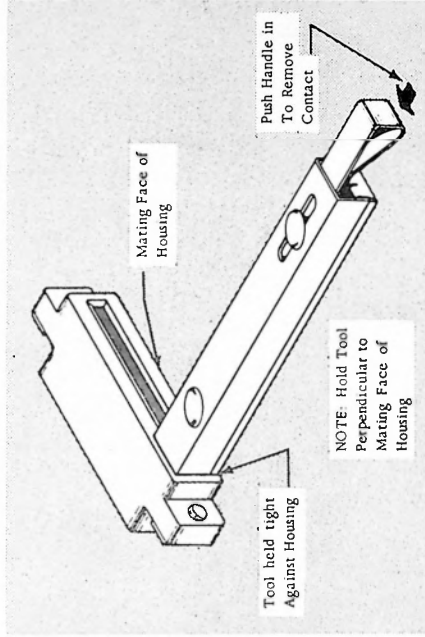

Fig. 4
3. Hold Tool firmly against Housing and push Handle in to remove Contact. See Figure 4.